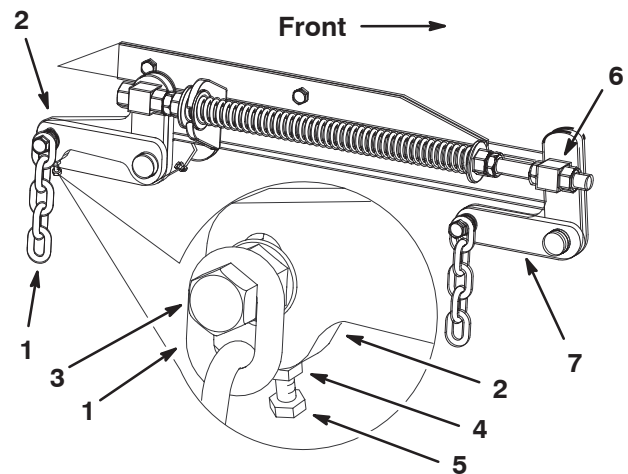

Figure 53
7. If the measurements at positions **B** or **C** are incorrect, loosen the bolt that attaches the rear chain to the rear support arm (Fig. 53).